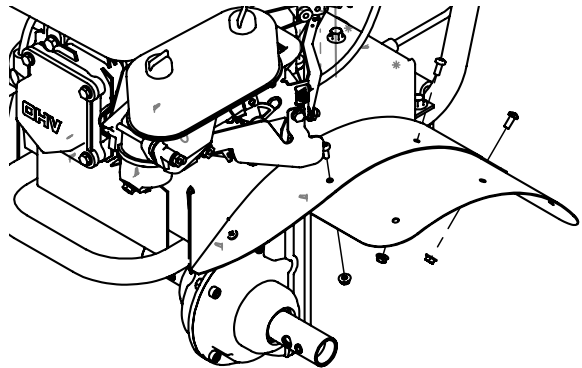

Figure 2
- b. Assemble hood extensions using (6) M6 x 12 outer hex flange bolts plus (6) M6 locknuts. **SEE FIGURE 2.**